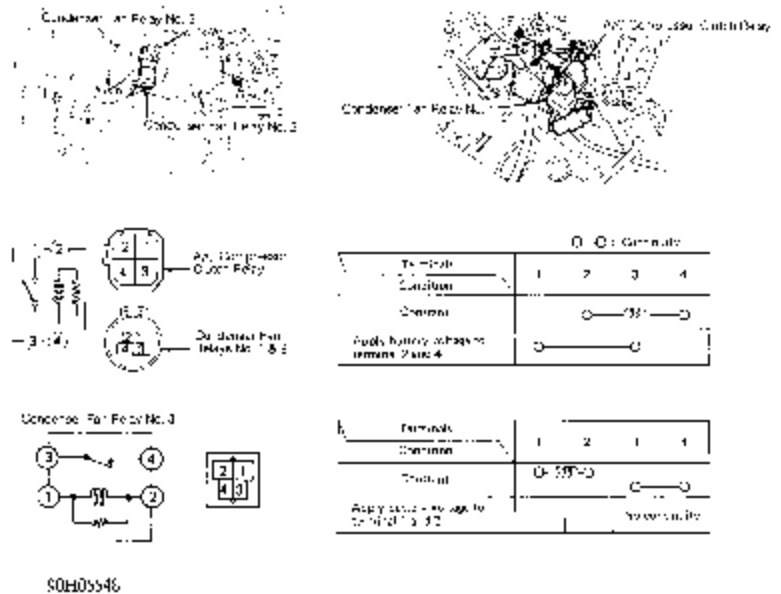

Fig. 10: A/C Compressor Clutch Relay & Condenser Fan Relay Test
1) Remove relay(s). Check for continuity between terminals No. 2 and No. 4. See Fig. 10. No continuity should exist between terminals No. 1 and No. 3, and between terminals No. 1 and No. 2. If continuity is not as specified, replace relay(s).